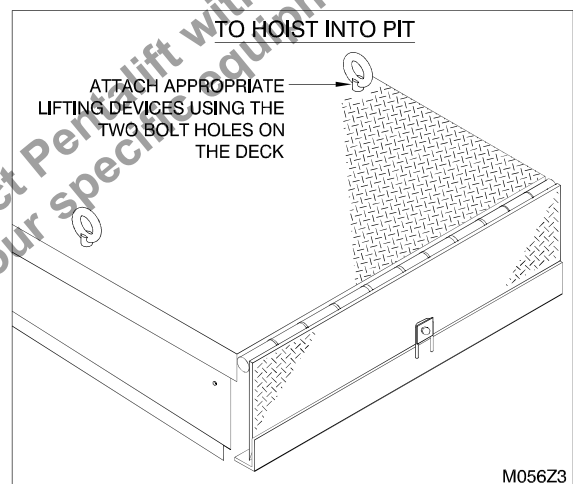

Figure 5: Attach Lifting Devices
6. \_\_\_ Install an appropriate lifting device into the two supplied holes and nuts (5/8"-11 UNC) in the dock leveler (See "Figure 5: Attach Lifting Devices" on page 8).